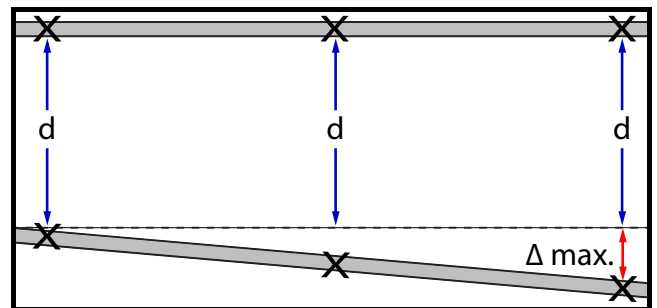

Fig. 1
- The maximum distance variation (Δ max.) between both fixed tracks, at every bracket location, must not exceed 30 mm (1 3/16") within the total span (see Fig. 1).